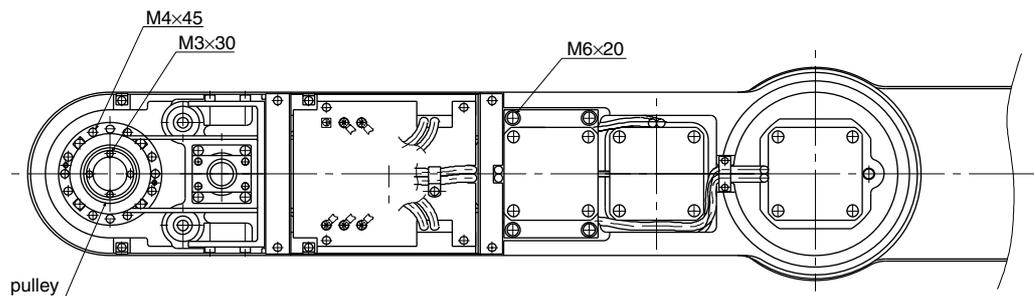

Fig. 5-57
- 11) Remove the bolts (M6×20L, 4 pieces) securing the R-axis motor plate at the top of the Y-axis arm. (See Fig. 5-57.)
- 12) Loosen the pulley bolts (M3×30L, 4 pieces) and remove the pulley fastened to the wave generator. (See Fig. 5-57.)
- 13) Remove the harmonic drive installation bolts (M4×45L, 12 pieces) and pull out the harmonic drive from the bottom of the Y-axis arm. (See Fig. 5-57.)
Apply small amounts of "Screw Lock" to the bolts (M4×45L, 12 pieces) and tighten them to secure the harmonic drive to the Y-axis arm from the top of the Y-axis arm. (See Fig. 5-57.)
- 19) Apply small amounts of "Screw Lock" to the bolts (M3×30L, 4 pieces) and tighten them to secure the pulley to the wave generator. (See Fig. 5-57.)
- 20) Fit the timing belt onto the wave generator pulley and motor pulley, and then secure the motor plate. (See Fig. 5-57.)